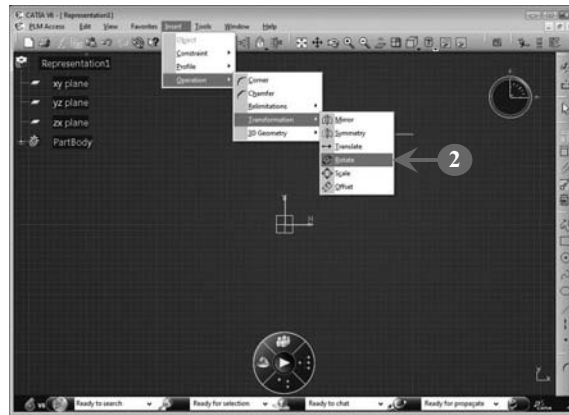

FIGURE 2.66
2. Select **Insert > Operation > Transformation > Rotate** to start the rotating operation, as shown in **Figure 2.66**: